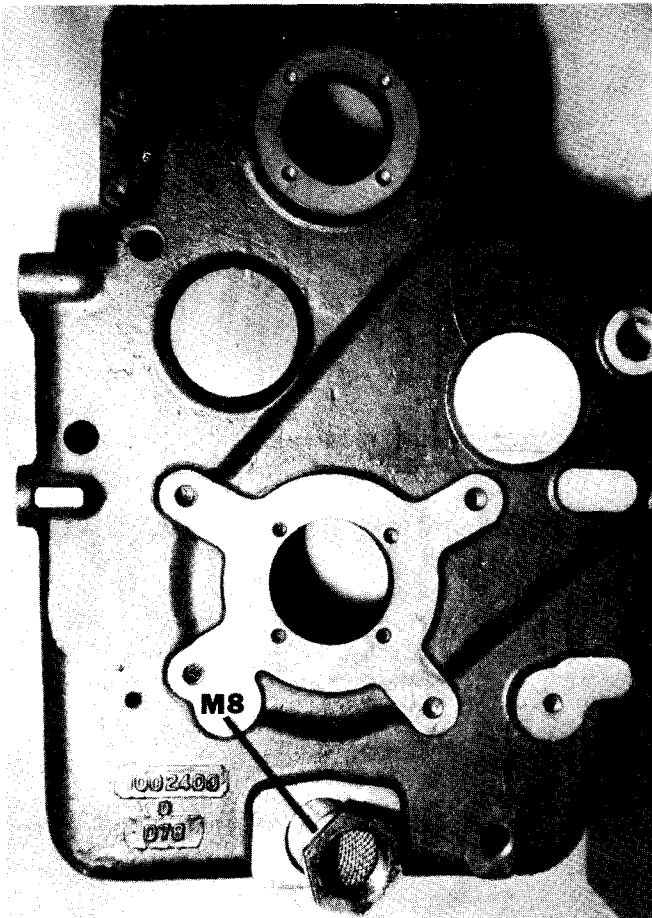

Figure 15
25. Remove sump screen (M-8) and clean thoroughly (Figure 15).